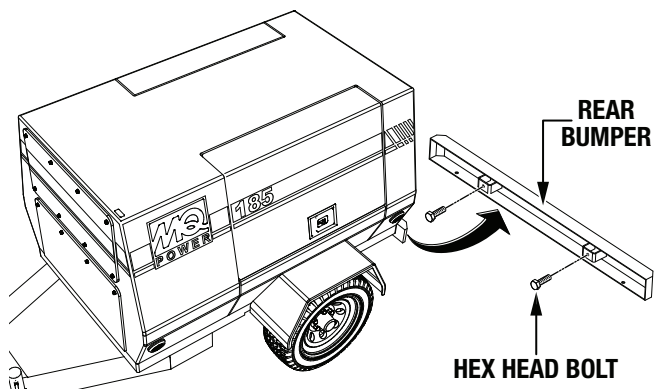

Figure 5. Rear Bumper Removal
2. Remove and discard the two hex head bolts securing the existing rear bumper (Figure 5) to the chassis. Discard the rear bumper.